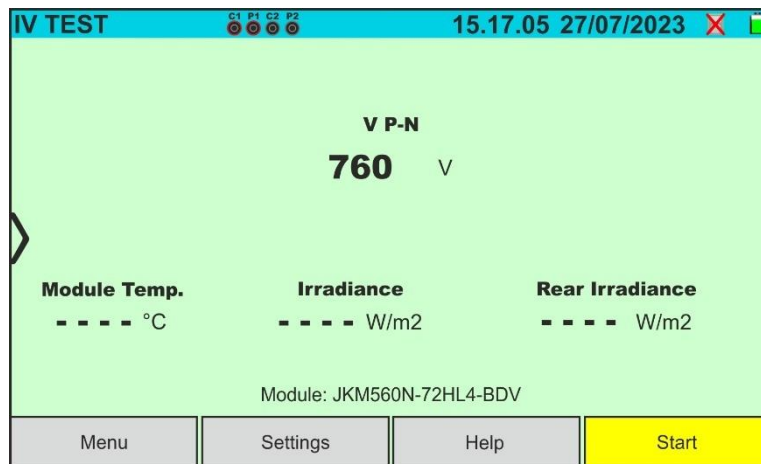

Fig. 36: Initial I-V test screen without remote unit on Bifacial modules
5. In the case of **Bifacial** modules, the screen of Fig. 36 is shown on the display. The following parameters are indicated: